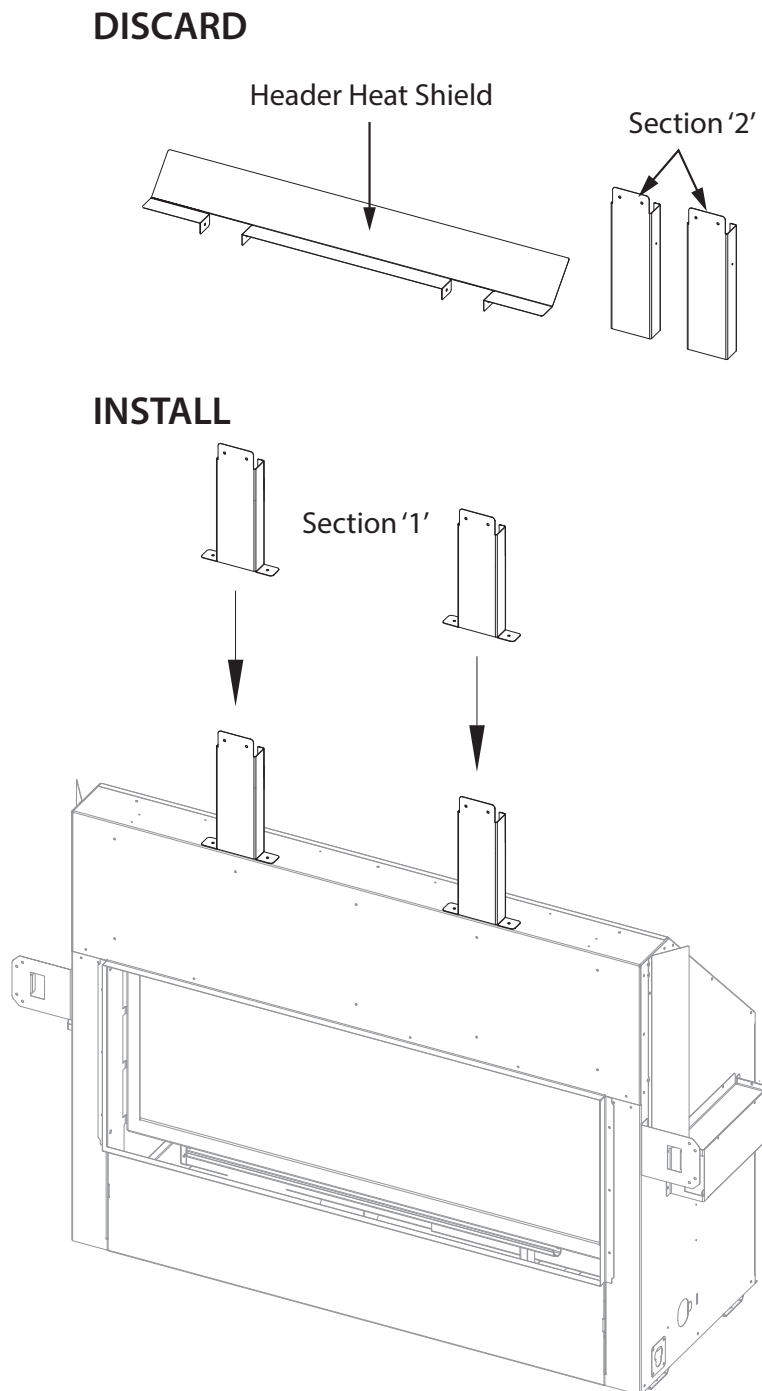

Figure 3.12, Standoff Assembly Installation
1. Remove and save (4) screws securing the header heat shield on top of the fireplace.
3. Using the screw previously removed, install section '1' to the top of the fireplace as shown in Figure 3.12.